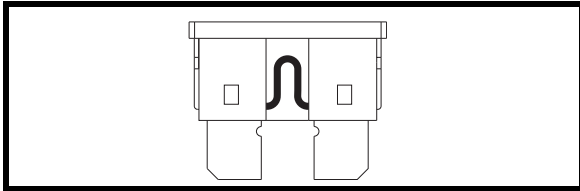

Figure 28. Working Fuse
2. Examine the fuse to be sure it is blown. **See figures 28 and 28A.**